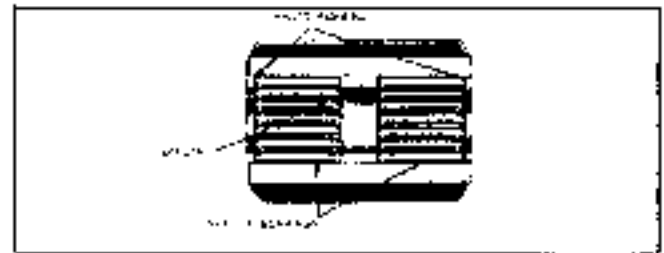

Fig. 7F-67 Long Pinion and Bearing
5. Install input sun gear thrust washer with oil groove facing gear (Fig. 7F-68).